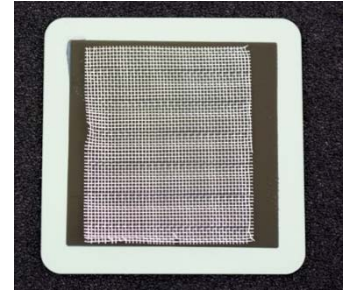

Figure 16
- Place the silver mesh onto the cathode active area so that the channels are parallel to the manifold tubes (Figure 16).